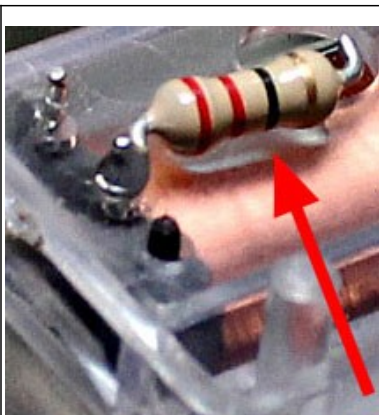
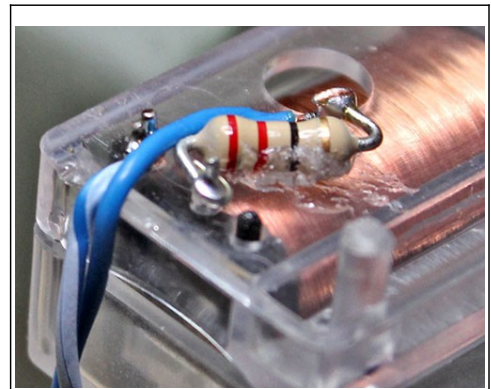

Fig. 41: Resistor with "super glue."
Fig. 43: Wires bent 90° at housing edge.
- ☐ Press a finger or thumb over the motor terminals, resistor, and the two wires. Carefully bend the wires downward 90° where they cross the edge of the housing, as in Fig. 43. This bend allows the movement to sit flat in the case, and the wires to pass through a slot you will cut in the case (next, below).
Don't take chances! I strongly recommend securing the resistor to the housing before you perform the next step, using adhesive such as rubber cement, Goop (**Fig. 43**) http://eclecticproducts.com/ag_adhesives.htm, or cyanoacrylate ("super glue"), seen here in Fig. 41. Keep the adhesive off the resistor leads, or soldering will be impossible.
- ☐ Press a finger or thumb over the motor terminals, resistor, and the two wires. Carefully bend the wires downward 90° where they cross the edge of the housing, as in Fig. 43. This bend allows the movement to sit flat in the case, and the wires to pass through a slot you will cut in the case (**below**).
- ☐ If the movement is not seated flat in the case, and firmly onto the conical protrusion, remove it and bend the wires close against the end of the movement housing, as shown in **Fig. 43**. This should allow the movement to seat flat.